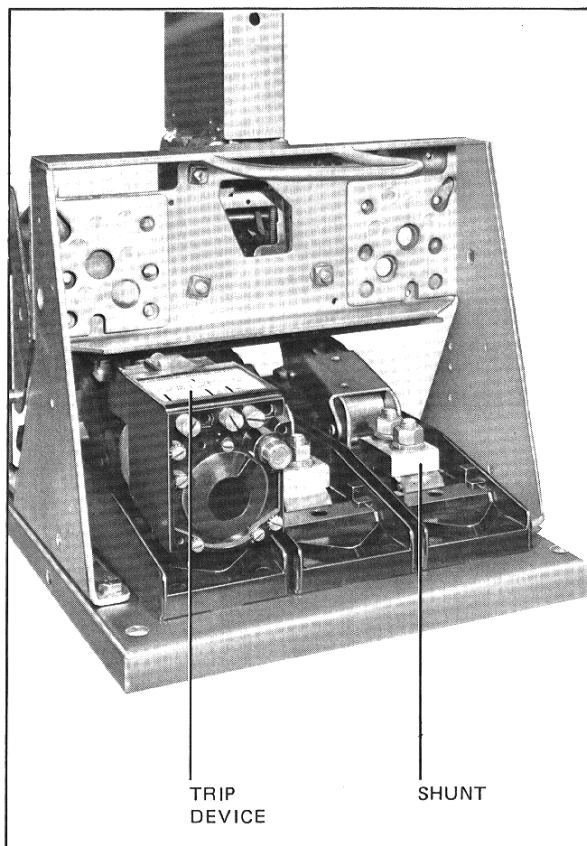

Fig. 8 Removal of Electro-Mechanical Trip Devices
- C. Remove the three electro-mechanical trip units and replace with three copper jumpers using .5-13 x 2.25 bolts, see Fig. 8. On electrically operated breakers, the control relay must be removed before the left trip unit is removed. Replace the control relay after the shunt is installed. The existing barriers between the pole units can remain in place.
- C. Remove the three electro-mechanical trip units and replace with three copper jumpers using .5-13 x 2.25 bolts, Fig. 8.